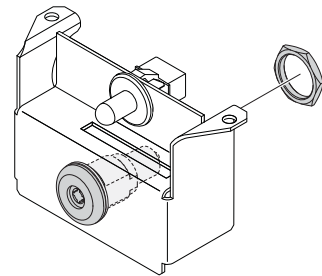

Figure 5. Nut Installation
5. Install nut onto back of tumbler, but do not tighten nut at this time (See Figure 5).